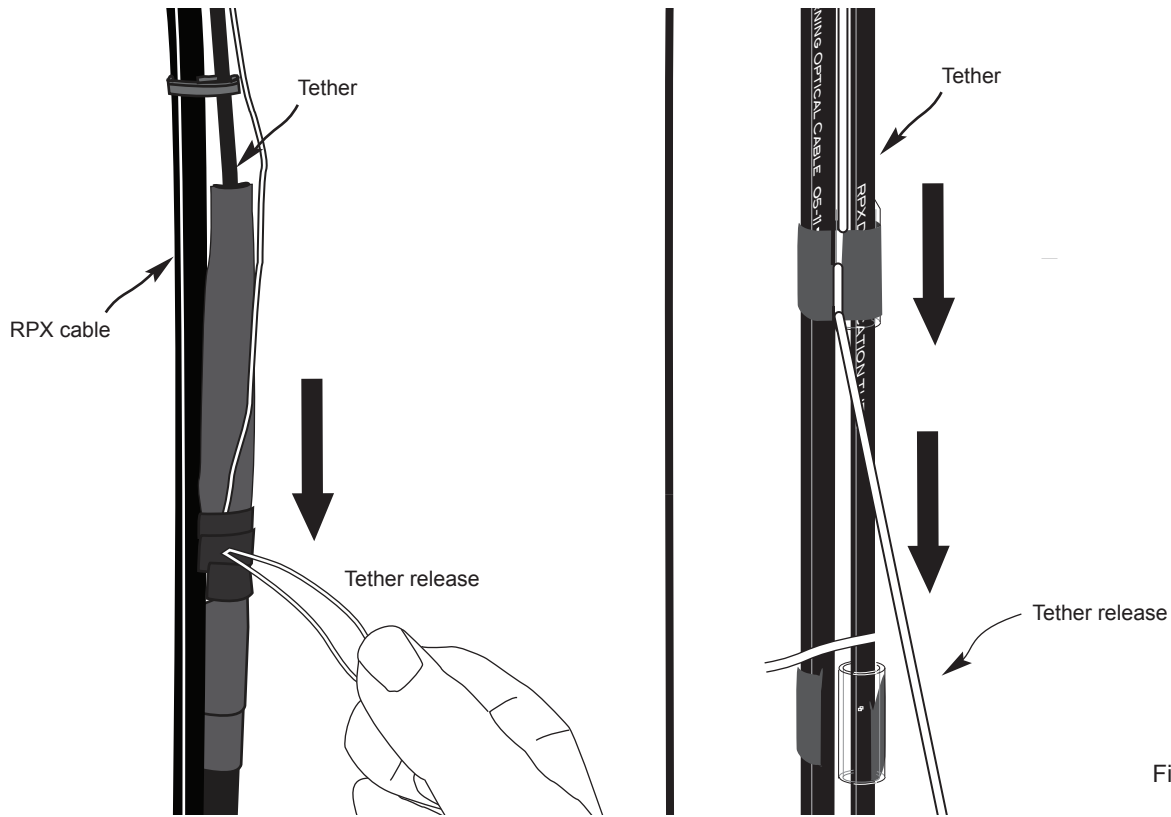

Figure 12
6.3 Once the hole is drilled, open the window and pull down on the tether release mechanism to allow the tether to come free from the host RPX cable (Figure 12).